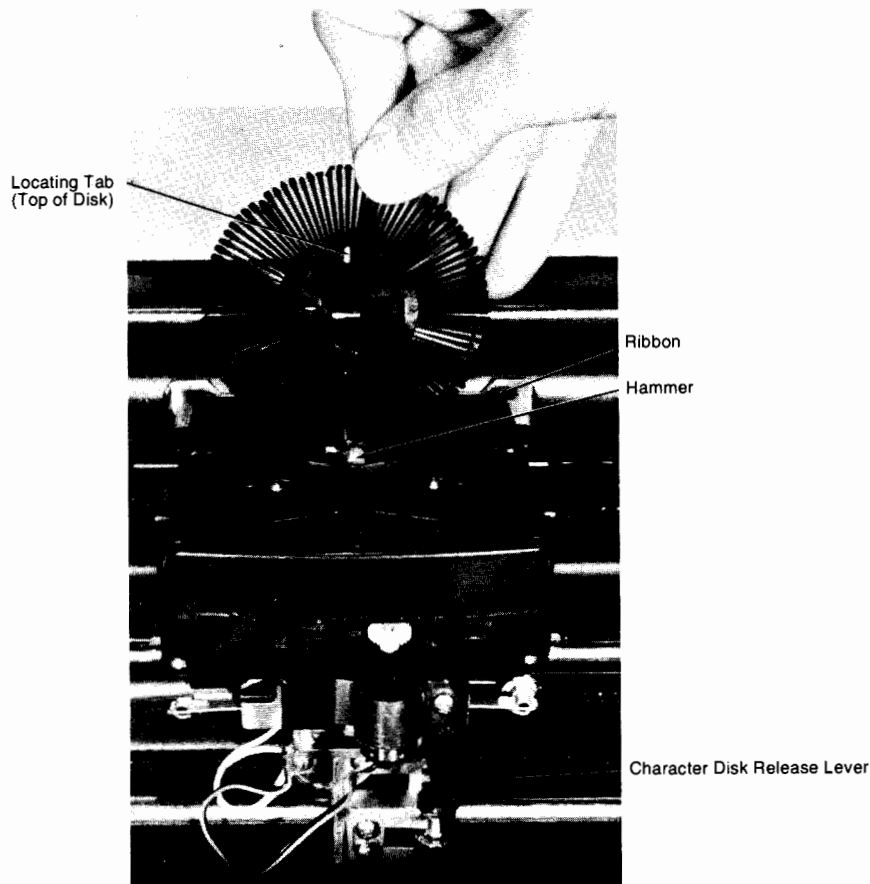

Figure 1-7. Changing the Character Disk
To change the character disk, follow the procedure below, and refer to Figure 1-7.
2. Ensure that the tab on the character disk is up (Figure 1-7); then press the character disk release lever to unlock the disk. If necessary move the belt to rotate the disk into position.